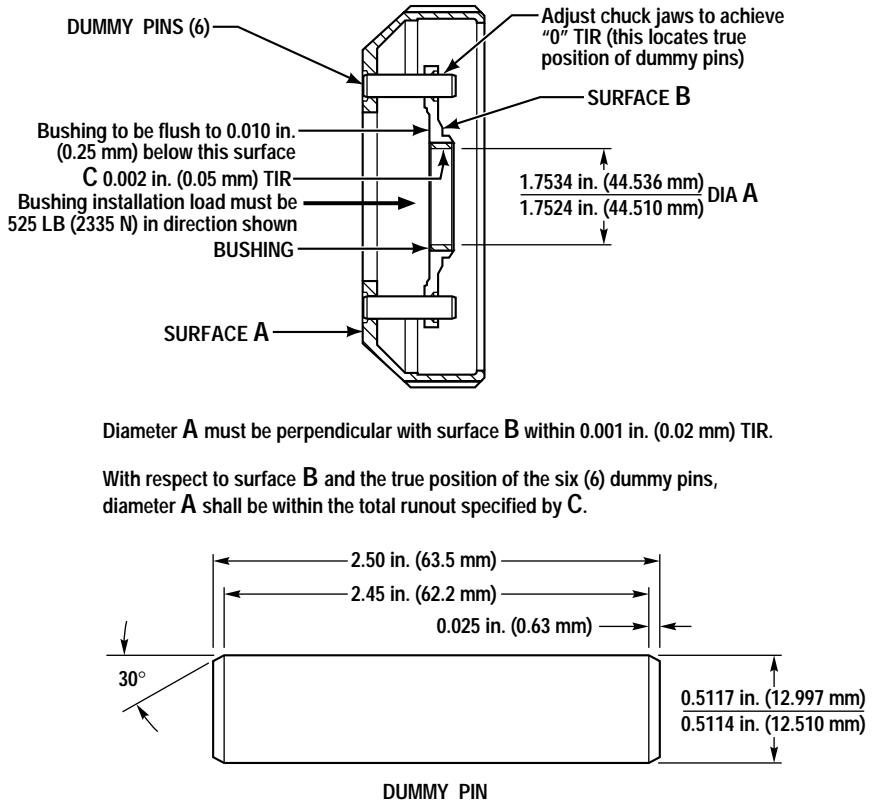

Figure 6-60. Front Carrier Assembly Bushing Installation
(1) Fabricate four dummy pins to the dimensions shown in Figure 6-60.
(2) Place the front carrier on a work table, rear downward.
(3) Press the bushing from the carrier. Do not scratch or score the bushing bore. (Refer to Paragraph 4-5f(1).)
(4) Place the carrier in a press, rear downward.
(5) Apply Loctite® Sleeve Retainer No. 601 (or equivalent) to the OD of the new bushing. Install the bushing using tool J 28501. Press the bushing flush to 0.010 inch (0.25 mm) below its adjacent surface (Figure 6-60). Remove excess Loctite® from the carrier.
(6) Using a lathe with a four jaw chuck, mount the carrier with Surface **A** facing the chuck. Insert the four fabricated dummy pins (Figure 6-60) into the pinion pin holes. Adjust the chuck, centering the carrier based on Surface **B** and the runout of the dummy pins.
(7) Total runout of bushing after boring must not exceed 0.010 inch (0.25 mm). Use Figure 6-60 as a guide.